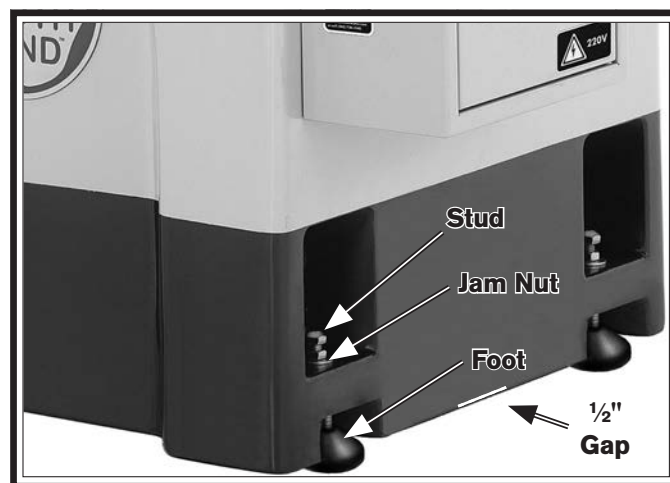

Figure 10. Machine feet.
4. Tighten each stud until the machine is positioned approximately $\frac{1}{2}$ " off of the floor, as shown in **Figure 10**.